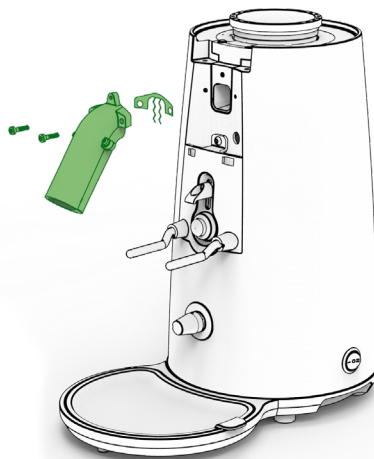

Fig. 10
**11.4.2** Using a Hex Allen key #3, loosen the two screws of the coffee exit chute and remove it from the grinder body to gain access to the metal grid (**Fig. 10**).